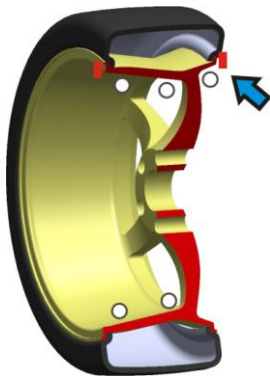

Fig. 3
4.1.6. Anticlockwise moving wheel slowly, until the right LED lit up full, clip weight on 12 o'clock position (**Fig.3**)